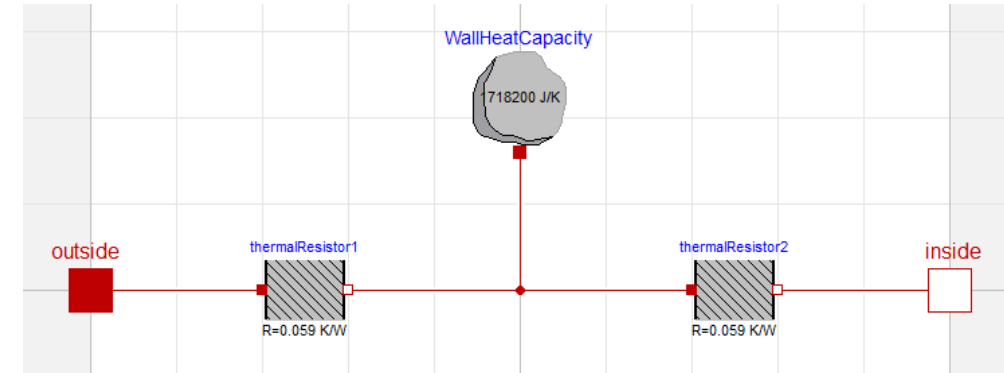

Figure 6.1: Connections in **Wall**
- `Modelica.Thermal.HeatTransfer.Components.ThermalResistor` (2)
- `Modelica.Thermal.HeatTransfer.Components.HeatCapacitor` (1)
- `Modelica.Thermal.HeatTransfer.Interfaces.HeatPort_a` (1)
- `Modelica.Thermal.HeatTransfer.Interfaces.HeatPort_b` (1)
5. Connect the components according to figure 6.1.